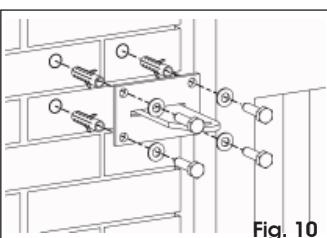

Fig. 10
- Secure all the items on the pilaster using adequate securing systems (Fig. 10).